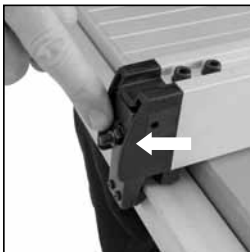

FIG. 15
- Turn the clamp pressure adjustment nut **(Fig. 15)** one flat either clockwise or counter-clockwise.